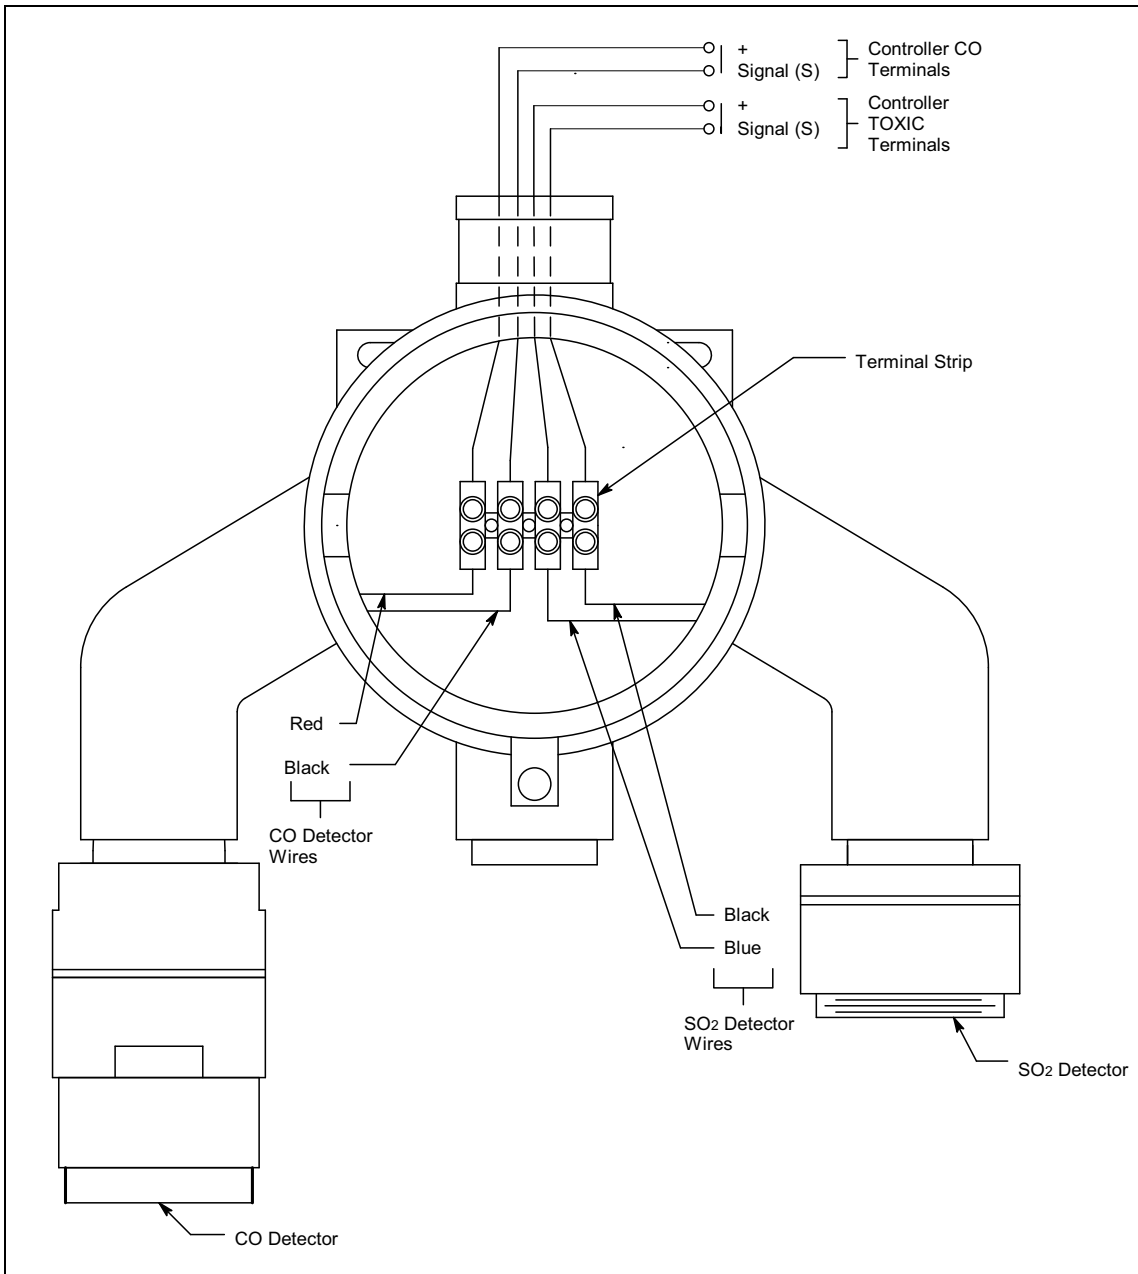

Figure 4: Wiring a 65-2486RK-03 to a Controller
8. Connect the wires to the applicable controller terminal strips. See the controller operator's manual and the controller's detector head specification sheet. Also see Figure 4 for the wiring diagram.
7. Connect the detector leads to the terminal block the same way the old detector was wired. See the controller operator's manual and the controller's detector head specification sheet to verify the connections are correct. Also see Figure 4 for the wiring diagram.